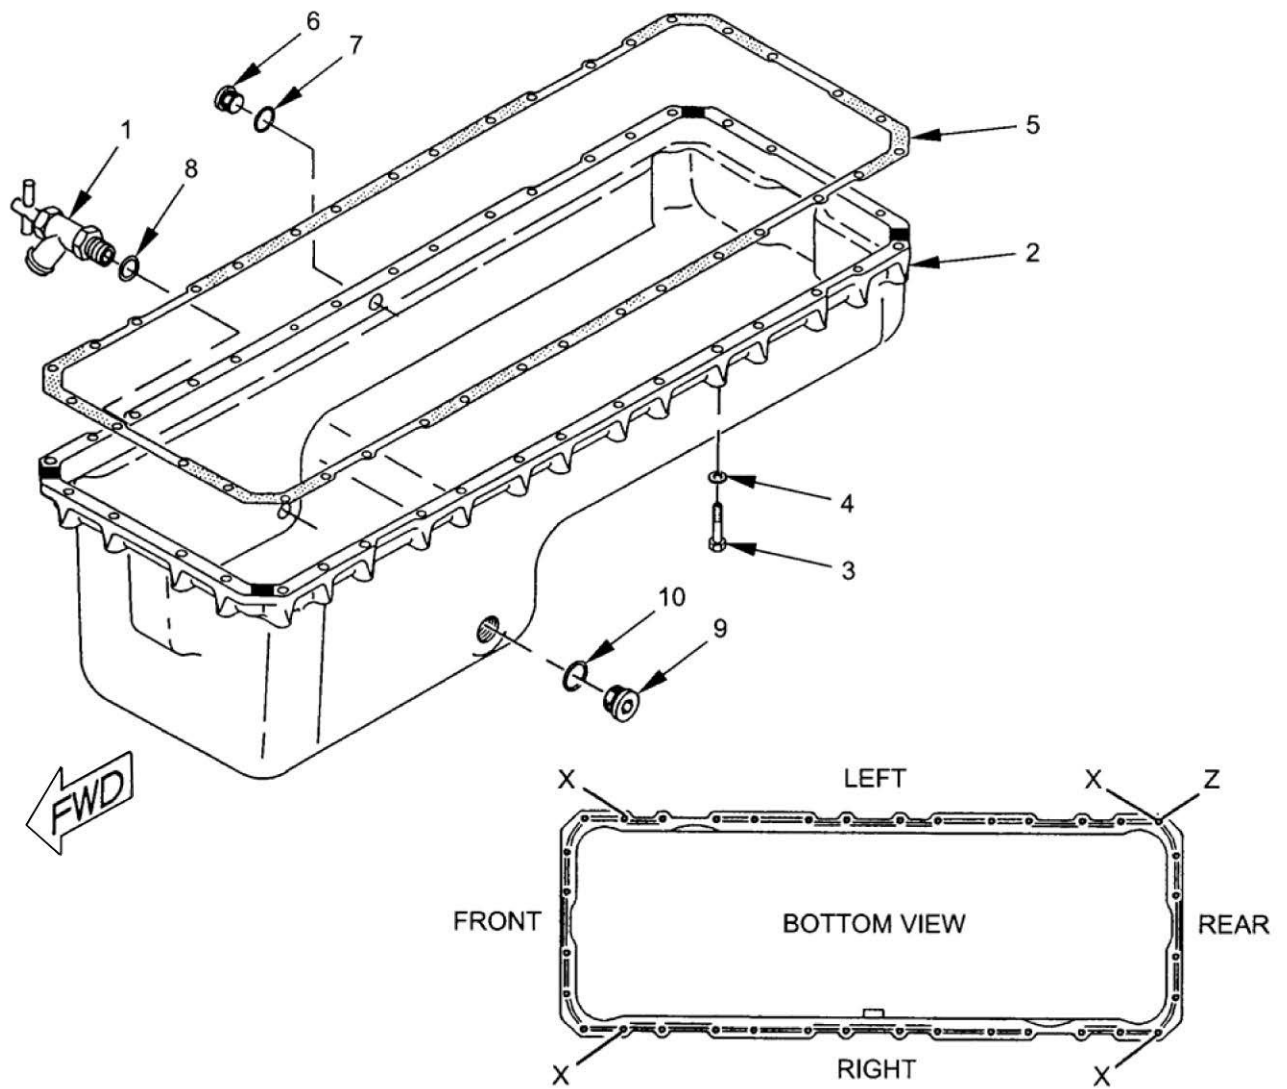

Figure 1. Engine Oil Pan.
4. Remove magnetic drain plug (Figure 1, Item 9) and preformed packing (Figure 1, Item 10). Inspect magnetic drain plug (Figure 1, Item 9) for metal particles and wipe clean. Notify supervisor if particles are present.
1. Install preformed packing (Figure 1, Item 10) and magnetic drain plug (Figure 1, Item 9).
2. Install O-ring (Figure 1, Item 8), drain valve (Figure 1, Item 1), O-ring (Figure 1, Item 7), and plug (Figure 1, Item 6).
3. Apply thin coat of gasket cement between bolt holes only at four corners of oil pan (Figure 1, Item 2).
4. Position gasket (Figure 1, Item 5) on oil pan (Figure 1, Item 2) and install oil pan (Figure 1, Item 2) on engine block. Install four washers (Figure 1, Item 4) and bolts (Figure 1, Item 3) at locations marked "X" hand tight.
5. Install remaining 32 washers (Figure 1, Item 4) and bolts (Figure 1, Item 3). Tighten hand tight.
6. Beginning at the left rear corner (location marked "Z"), torque 36 bolts (Figure 1, Item 3) in a counterclockwise pattern to 21-25 lb•ft (28-34 N•m). Re-torque 36 bolts (Figure 1, Item 3) in a counterclockwise pattern to 21-25 lb•ft (28-34 N•m).